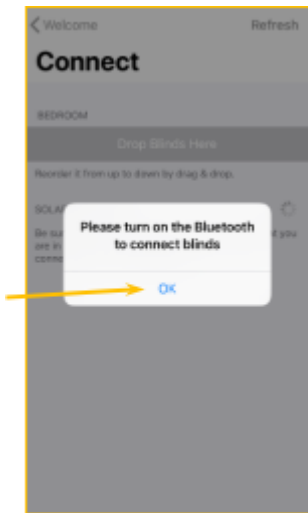

Figure 4
**10.2.3.1.** Make sure that Bluetooth is enabled on your smartphone and click **Ok** (Fig. 4).